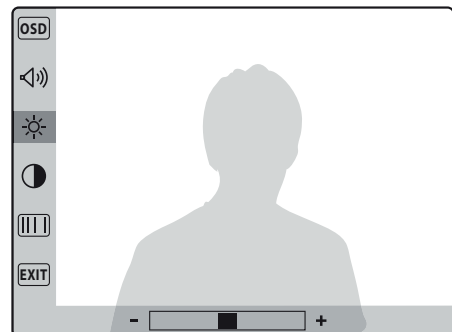
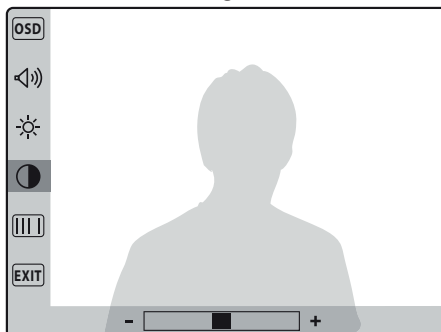

Fig.4a
Fig.4b
- The picture brightness (8 levels Fig.4a);
- The picture contrast (8 levels Fig.4b);
4. Once the videophone is fixed to the wall, place the front plate against the videophone by inserting the hooks in the corresponding openings and hook the plate by pushing it down as shown in figure 4a and hang the handset as shown in figure 4b.